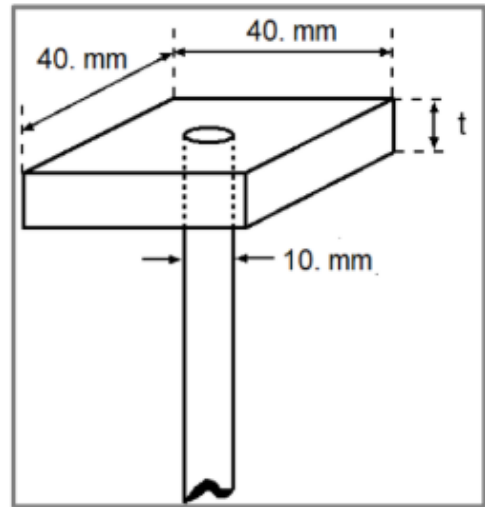

Figure 2
- The load will be applied downward, from below, by means of a 40. mm square plate (see **Figure 2**). The thickness of the plate will be less than 13. mm and will have a 10. mm diameter threaded rod eyebolt attached from below at its center with a standard hex nut. The plate will be horizontal with two sides parallel to the longitudinal axis of the bridge.